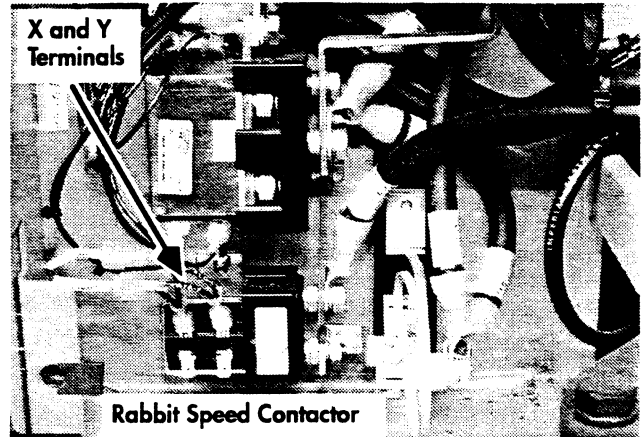

Figure 6-17: Rabbit Speed Contactor
3. Disconnect the wires on the X and Y terminals. Note the location for the correct installation later. See Figure 6-17.